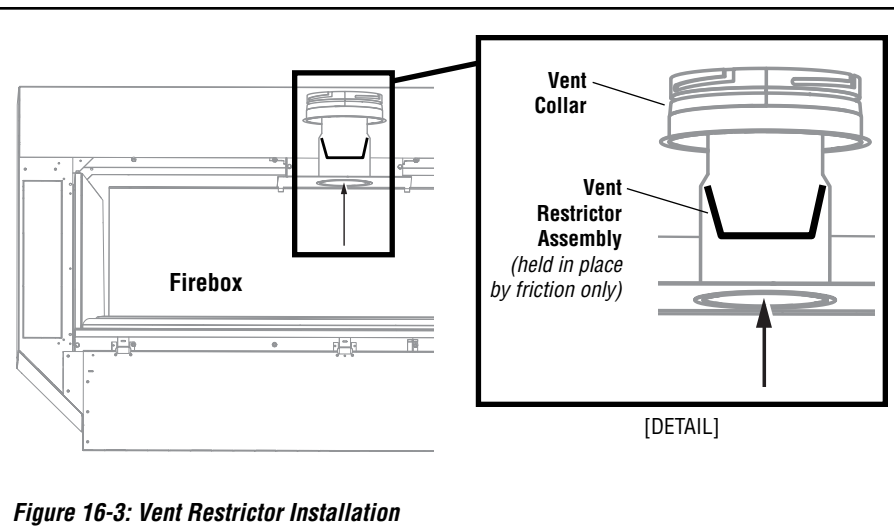

Figure 16-3: Vent Restrictor Installation
3. Install the vent restrictor assembly from inside the firebox. With the flaps on the vent restrictor base facing UP, carefully bend the flaps inward just enough to slide the assembly up into the vent collar, as shown in Figure 16-3).